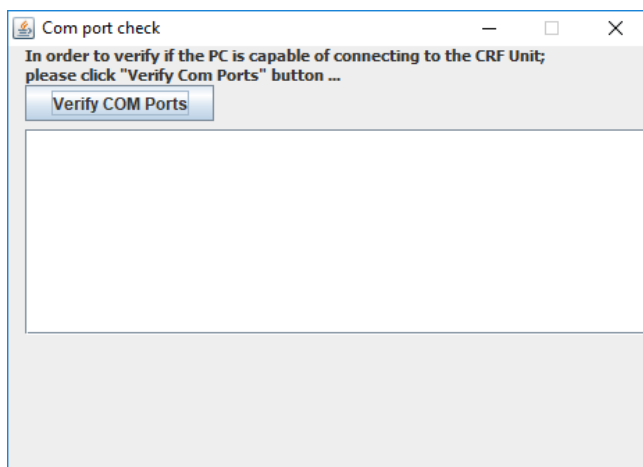

Figure 107. Verify COM Ports Screen
13. On clicking Verify COM Ports button, the application will start identifying the available COM ports and start establishing the connection. When Valid COM Port is found then it displays Port is Valid and PC Interface application is ready, as shown below **Figure 107**.